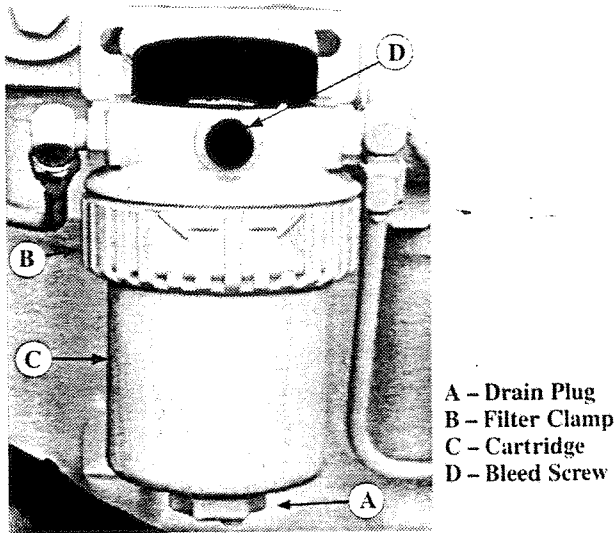

Figure 11. Secondary Fuel filter
- a. Open the filter drain plug (Fig. 11,A) and drain the filter.
- b. Remove the secondary fuel filter by turning the filter clamp (Fig. 11,B) counter clock-
wise until the filter cartridge (Fig. 11,C) slides out.
- a. To bleed the fuel system, loosen the bleed plug (Fig. 11,C) on the fuel filter cartridge. Operate the primer pump lever on fuel transfer pump (see component locations) until most of the air bubbles are expelled and clear fuel escapes the bleed plug. Tighten the bleed plug.